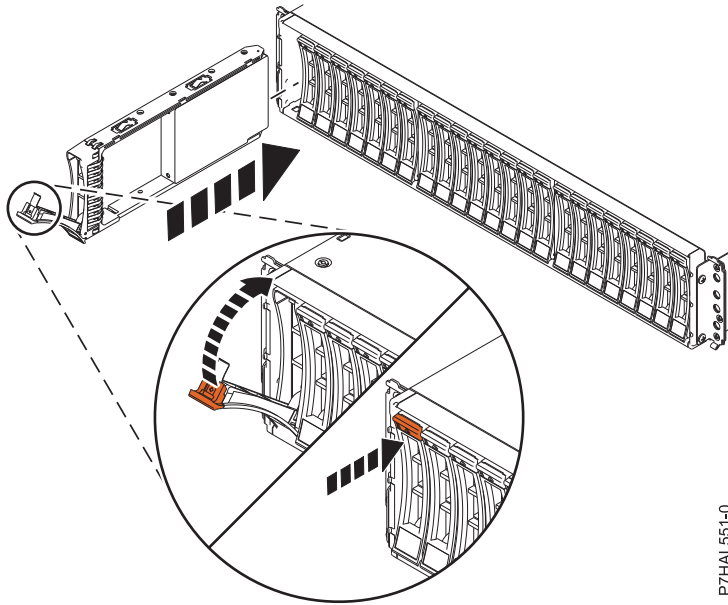

Figure 49. Installing or replacing a disk drive in an enclosure
3. With the handle in the unlocked position, as shown in Figure 49 on page 45, support the bottom of the drive as you align it with the guide rails in the expansion unit.
8. Lock the drive by rotating the bay handle (A) in the direction that is shown in Figure 49 on page 45.